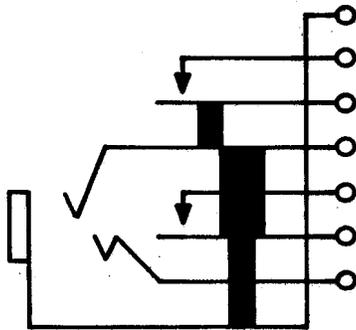

Fig. 9—323C Jack
**2.09 323C:** This single-mounted jack (Fig. 9) is used with the 309 or similar-type plugs. The 323C jack is heavily insulated.